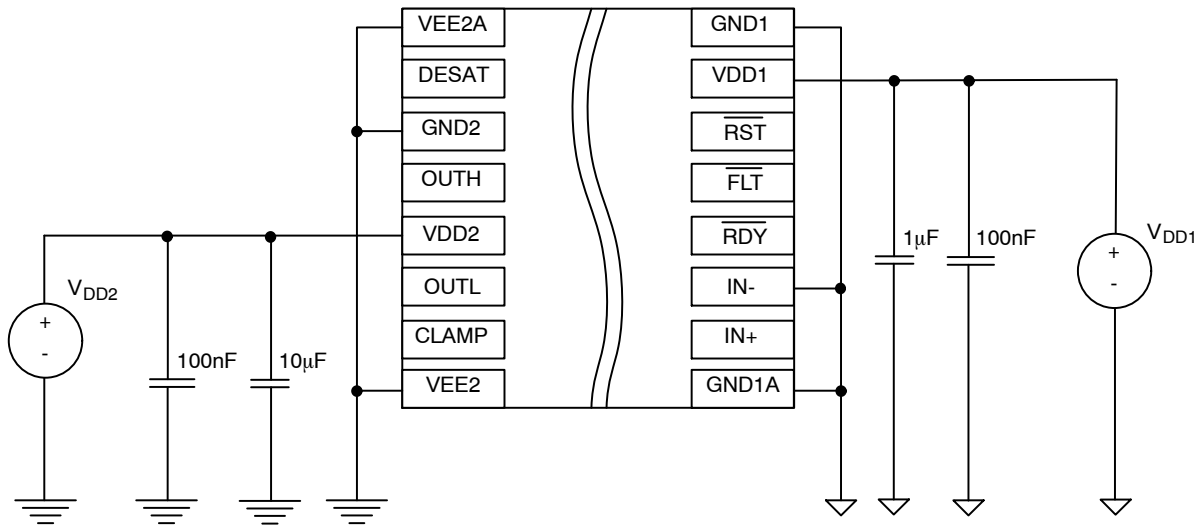

Figure 29. Unipolar Power Supply
- In Unipolar power supply the driver is typically supplied with a positive voltage of 15 V at VDD2. Dynamic turn on throughout the internal IGBT input capacitance could be prevented by Active Miller Clamp function. CLAMP output should be directly connected to IGBT gate (Figure 29).